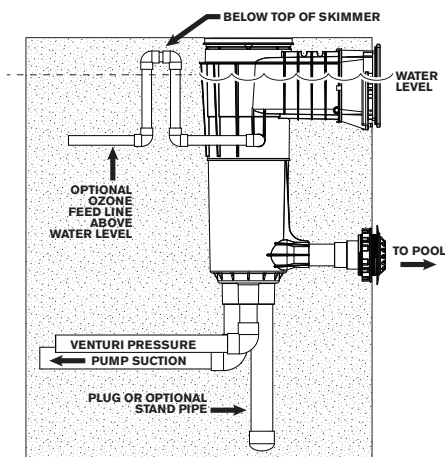

Fig. 3b
2. Plumb a loop in the $\frac{3}{4}$ " line above water level and then back down before crossing yard to the equipment to avoid this line filling with water Fig. 3a or Fig. 3b